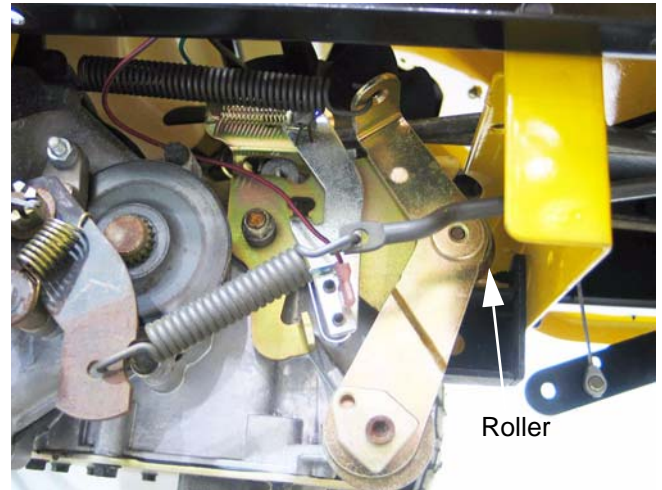

Figure 31.31
31.31. To adjust the input arm on the hydro: Confirm that the roller on the return arm draws fully into the valley in the cam surface on the front of the input arm. See Figure 31.31.